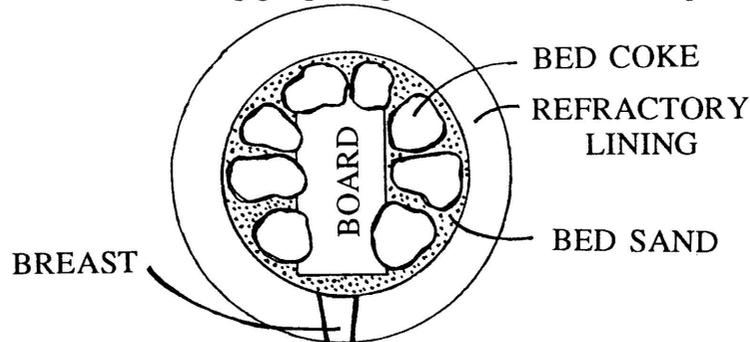

Fig. 9. Bed Coke board and "tunnel"
- B. Make a "tunnel" of Bed Coke (3-4 pieces each side, 6-8 on top and 1 or 2 against back wall) around and over board. This tunnel will encourage proper and thorough ignition, see Fig. 9.